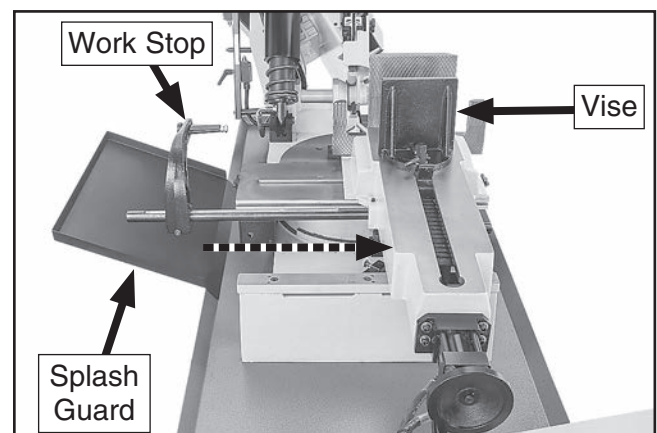

Figure 44. Vise positioned to right.
5. Pull vise all the way to opposite side of base and tighten vise locks (see **Figure 44**).
6. Re-install splash guard and work stop on side of vise base opposite of vise, as shown in **Figure 44**.